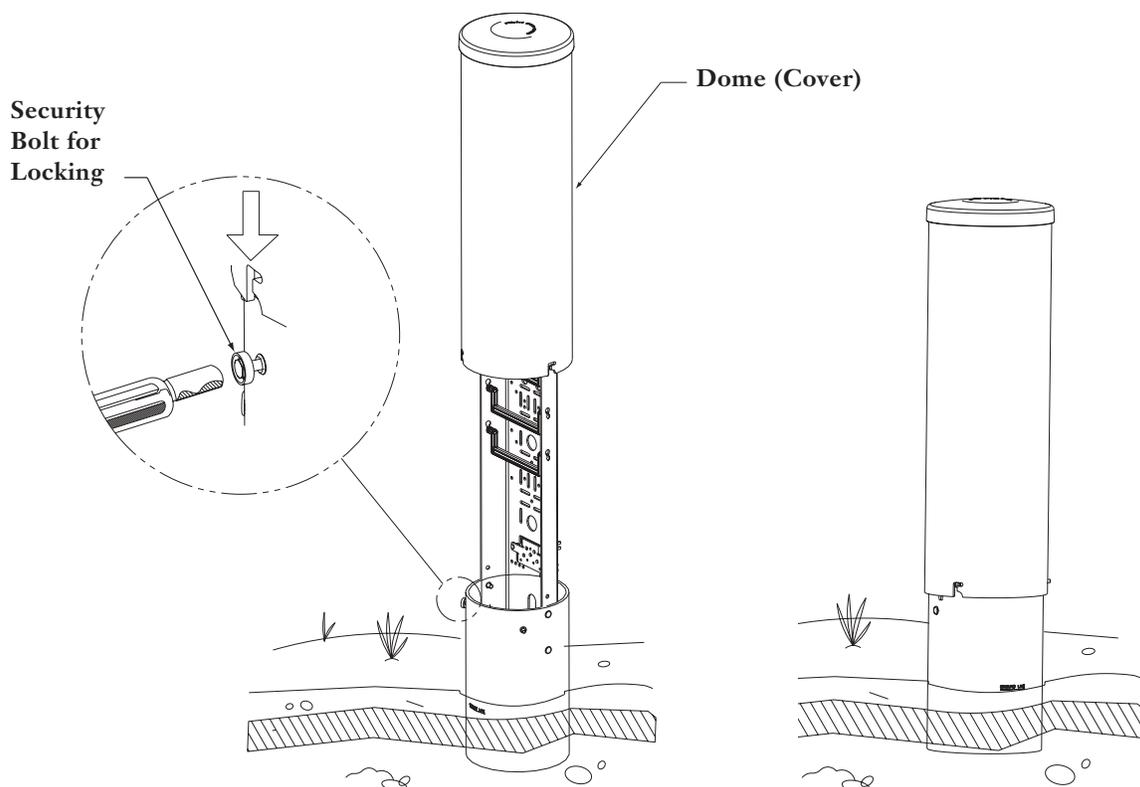

Figure 7
- Step 5** Install the dome (cover) on the base, twist to engage the slotted capture feature, and tighten the security bolt. The completed installation is shown on the right (Figure 7).
No routine maintenance of the pedestal itself is required to maintain normal operation of the unit. To reenter the dome (cover) for maintenance of any installed electronic equipment or terminal blocks, loosen the security bolt, twist the dome to release it from the slotted capture feature, and lift the dome straight up (Figure 7). Reverse the process to replace and secure the dome once maintenance has been performed.